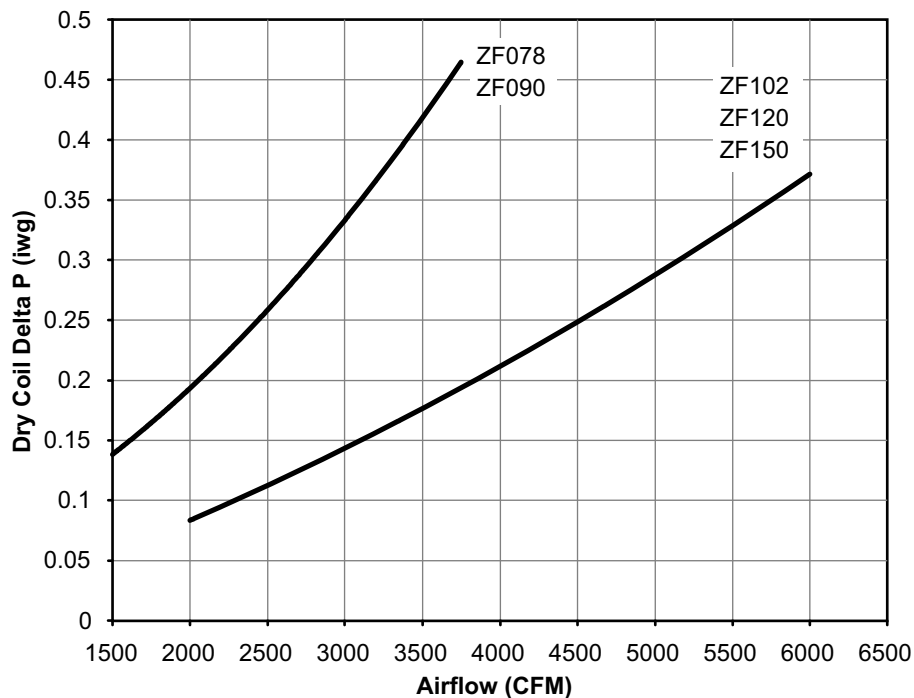

Figure 31: Dry Coil Delta P
4. The CFM through the unit can be determined from the pressure drop indicated by the manometer by referring to Figure 31. In order to obtain an accurate measurement, be certain that the air filters are clean.